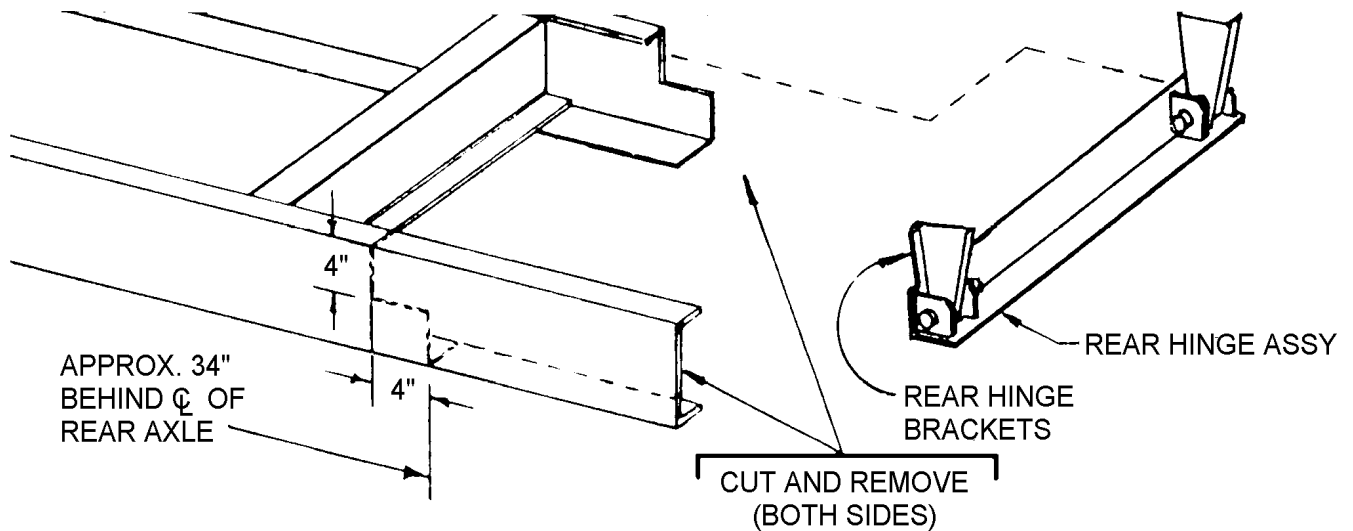

Figure 2 - Frame Modification and Rear Hinge Attachment
- B. Cut a 90° slot in each side of the frame as shown in Figure 2.
- K. Place the rear hinge brackets in the vertical position (Figure 2). Weld and/or bolt the brackets to the longitudinals. If bolted, mark and drill each bracket four (4) places (17/32" holes) and secure the brackets to the longitudinals using eight (8) 1/2"-13 x 1-1/2" Grade 8 hex head cap screws, eight (8) 1/2" lockwashers, and eight (8) 1/2"-13 hex nuts.